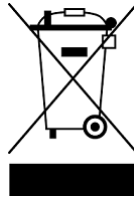

Figure 3-9. Replacing the Batteries
1. Remove the red rubber casing and plastic casing as shown in Figure 3-9.